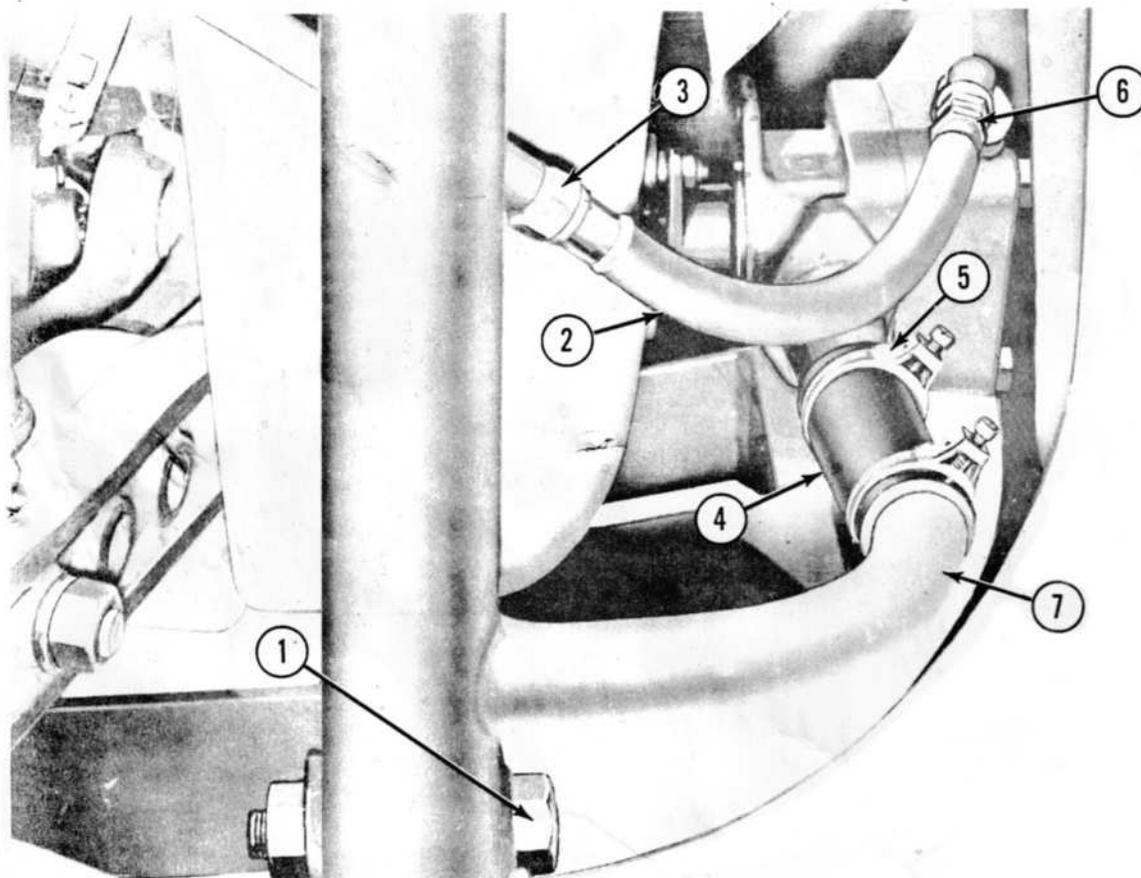

Figure 14
3. Secure the front of the loader to the front mounting bracket with one $1"-8 \times 4\frac{1}{4}"$ hex head bolt (1), Figure 14, and hex lock nut, on both sides.
1. Install a $\frac{1}{2}" \times 16"$ hose (2), Figure 14, into the elbow (6), in the pump outlet port and to the hydraulic line (3).
2. Install one end of a three foot length of 1 1/4" diameter, braid reinforced hose to the pump intake pipe nipple, (12), Figure 11. Install a return hose two feet long and the same diameter to the curved frame intake pipe, (7), Figure 14.
6. After flushing the frame for twenty minutes, stop the tractor engine and permit oil to return to the container. Remove flushing hoses and install the intake hose, (4), Figure 14, with the hose clamps, (5).